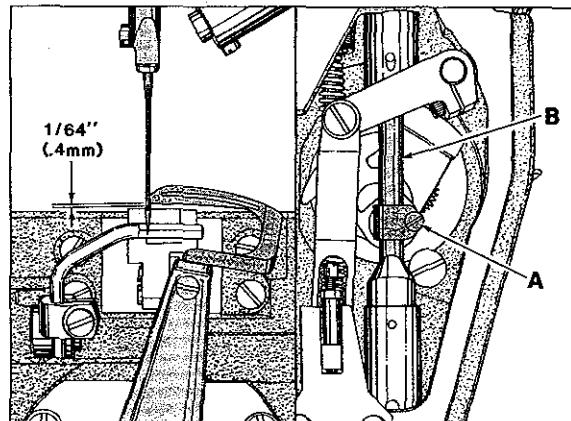

Fig. 8
Turn handwheel in operating direction until tip of looper is even with left side of needle. TOP of needle eye should be 1/64 inch (.4mm) below TIP of looper (as shown in Fig. 8). Adjustment can be made by loosening screw (A, Fig. 8), move needle bar (B) up or down as required, retighten screw (A) to 8 in-lbs (9.22cm/kg).